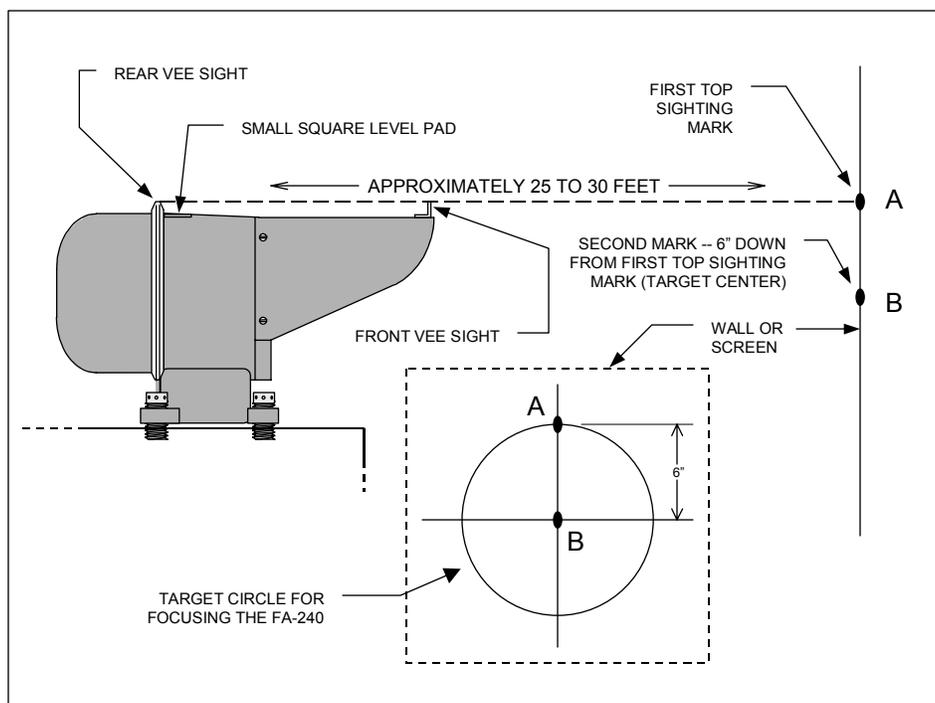

Figure 1.
2. Establish and aim the lantern at a twelve-inch (12-in.) diameter target on the wall, as shown here in Figure 1: